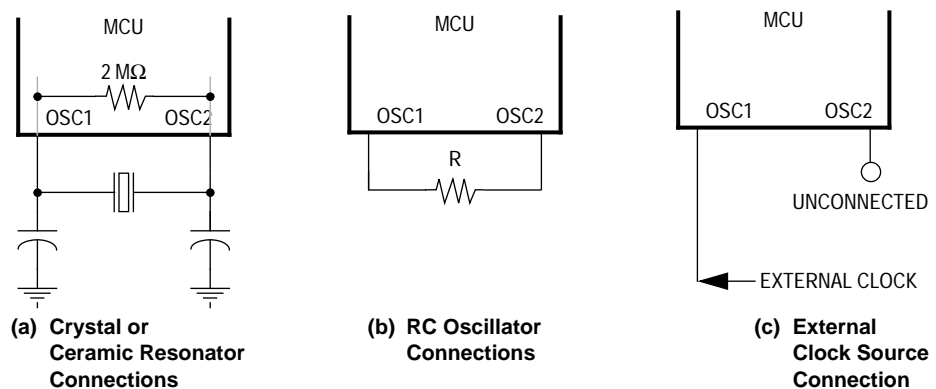

Figure 1-3. EPO Oscillator Connections
1. A crystal as shown in Figure 1-3 \(a\)
2. A ceramic resonator as shown in Figure 1-3 \(a\)
3. An external resistor as shown in Figure 1-3 \(b\)
4. An external clock signal as shown in Figure 1-3 \(c\)
The circuit in **Figure 1-3 (a)** shows a typical oscillator circuit for an AT-cut, parallel resonant crystal. The crystal manufacturer's recommendations should be followed, as the crystal parameters determine the external component values required to provide maximum stability and reliable startup. The load capacitance values used in the oscillator circuit design should include all stray capacitances. The crystal and components should be mounted as close as possible to the pins for startup stabilization and to minimize output distortion. An internal startup resistor of approximately 2 MΩ can be provided between OSC1 and OSC2 for the crystal type oscillator by use of the OSCRES bit in the MOR.
In cost-sensitive applications, a ceramic resonator can be used in place of the crystal. The circuit in **Figure 1-3 (a)** can be used for a ceramic resonator. The resonator manufacturer's recommendations should be followed, as the resonator parameters determine the external component values required for maximum stability and reliable starting.
The lowest cost oscillator is the RC oscillator configuration where a resistor is connected between the two oscillator pins as shown in Figure 1-3 \(b\). The internal startup resistor of approximately 2 M Ω is not recommended between OSC1 and OSC2 for the RC-type oscillator.
An external clock from another CMOS-compatible device can be connected to the OSC1 input, with the OSC2 input not connected, as shown in Figure 1-3 \(c\). This oscillator can be selected via software. This configuration is possible regardless of whether the crystal/ceramic resonator or RC oscillator configuration is used.